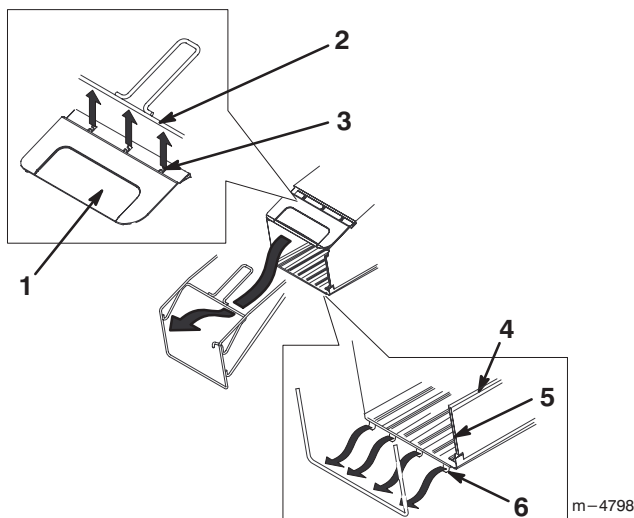

Figure 6
3. Snap the top frame bar into the three snap fittings on the bag cover as shown in Figure 6.
4. Insert the two side channels and two top channels of the grass bag onto the grass bag frame as shown in Figure 6.
5. Snap the bottom frame bar into the four snap fittings on the bag base as shown in Figure 6.